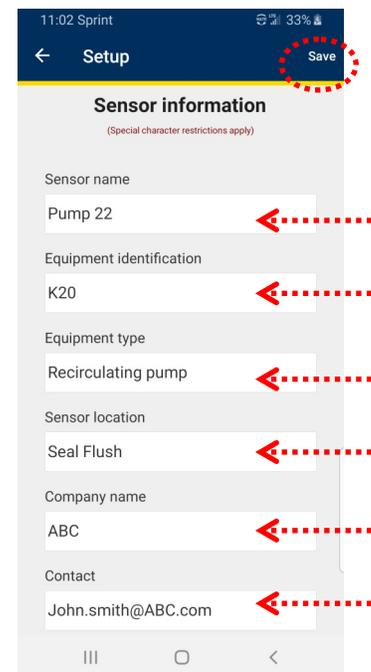

Figure 19
5. Once all fields are completed, select **Save** (see figure 19).